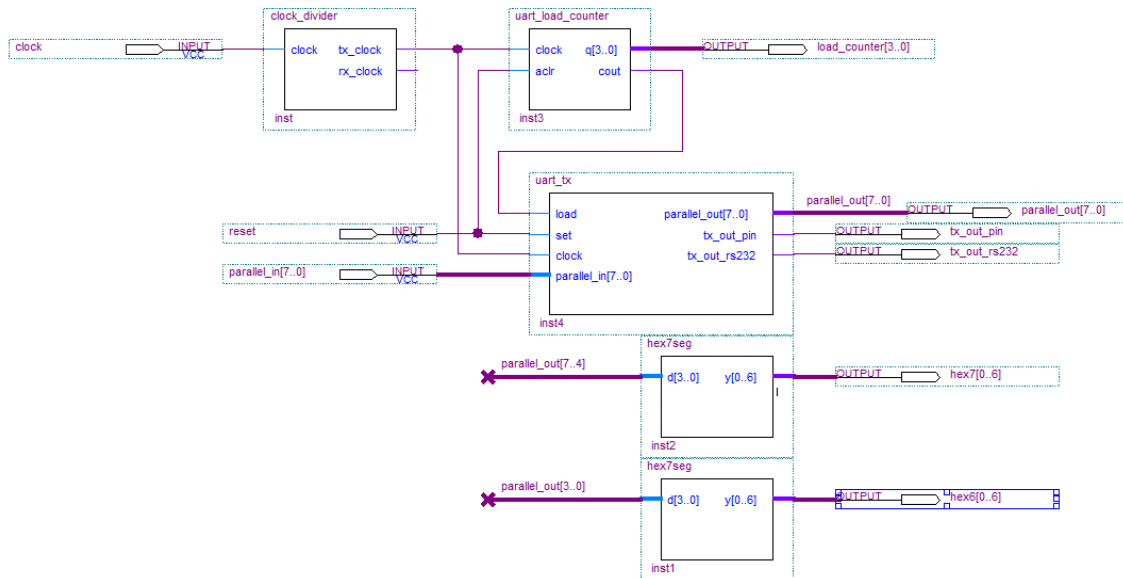

Figure 4 Serial Transmitter Test Circuit
3. Create a test circuit for the serial transmitter as shown in Figure 4 (next page). The tester consists of:
- Create a top-level file with input and outputs as shown on the clock divider block in Figures 4 and 5.